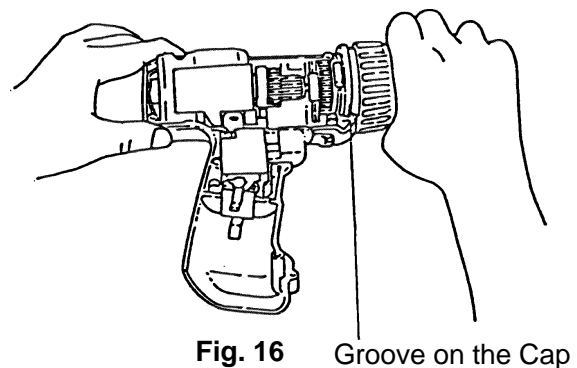

Fig. 16
- [5] Align the groove of the Cap ⑧ and the protruding portion of the Spring Holder ⑨ with the matching grooves on Housing (A), and install them by lifting up on the Gear Holder ⑱. (Fig. 16)